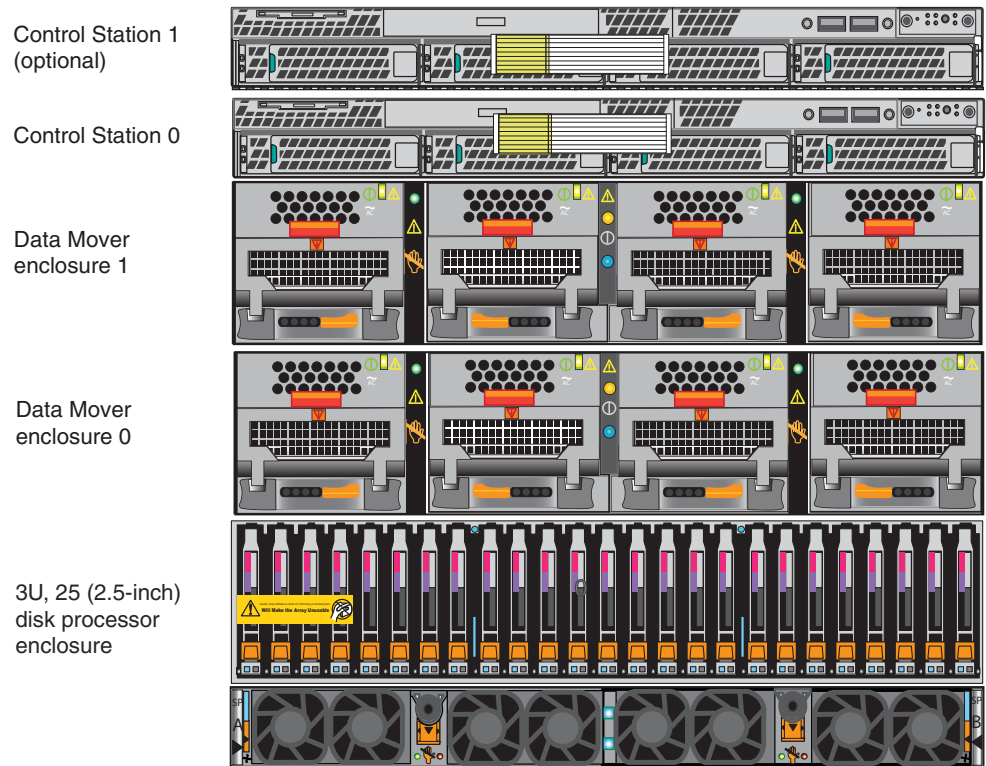
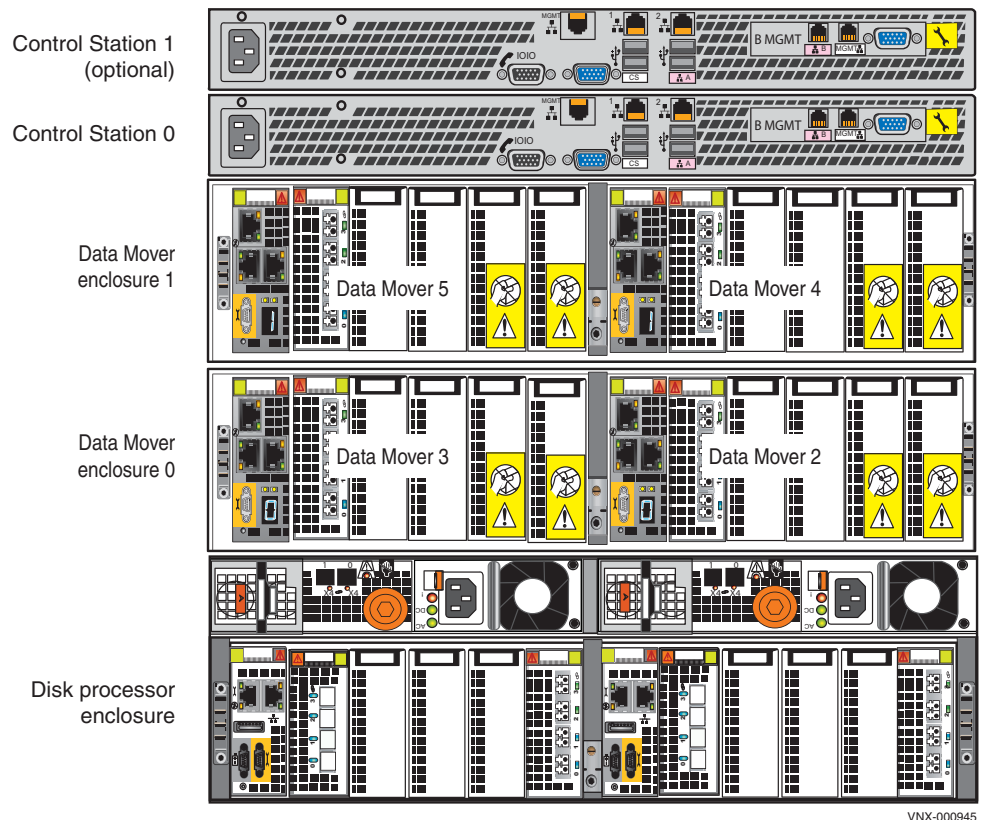

Figure 1 Example of a File/Unified VNX5600 platform (front view)
Figure 2 Example of a File/Unified VNX5600 platform (rear view)
In a File services or a Block and File services configuration (Figure 1 on page 7), the VNX5600 platform supports a 3U DPE, from one to two 1U Control Stations (CS0 and CS1), one to two 2U Data Mover enclosures having one to four Data Movers¹, and three types of DAEs. The 3U DPE supported is a 25 drive 2.5-inch disk 3U enclosure (or DPE9). The DAEs supported are a 25 drive 2.5-inch disk 2U enclosure (or DAE5S), a 15 drive 2.5- or 3.5-inch disk 3U enclosure (or DAE6S), a 120 drive 2.5-inch disk 3U enclosure (or DAE8S), and a 60 drive 2.5- or 3.5-inch disk 4U enclosure (or DAE7S). Expansion of up to nineteen 2U, 25 DAEs (a maximum of 475, 2.5-inch disk drives), up to thirty-one 3U, 15 DAEs (a maximum of 465, 3.5-inch disk drives), up to three 3U, 120 DAE (a maximum of 360, 2.5-inch disk drives), or up to seven 4U, 60 DAEs (a maximum of 420, 2.5- or 3.5-inch disk drives) is supported.
Figure 1 shows an example of the front view of a File/Unified VNX5600 platform having a 3U, 25 (2.5-inch) disk drive DPE, two 2U Data Mover enclosures with four Data Movers, and two 1U Control Stations (one optional).
Note: The example shown in **Figure 1** does not show any DAEs.
Figure 2 shows an example of the rear view of a File/Unified VNX5600 platform having a 3U DPE showing the two storage processors (SP A and B), two 2U Data Mover enclosures with four Data Movers, and two 1U Control Stations (one optional).
Note: The example shown in Figure 2 does not show any DAEs.
Note: Figure 1 on page 7 and Figure 2 are examples of a File/Unified VNX5600 platform (front and rear views) without any DAEs. These figures are for illustrative purposes only.
- On the front of the VNX5600, the 3U DPE (Figure 1 on page 7) has two SPs (SP A and B). Each SP consists of:
- On the rear of the VNX5600, the 3U DPE (Figure 2 on page 8) has two SPs (SP A and B). Each SP consists of: